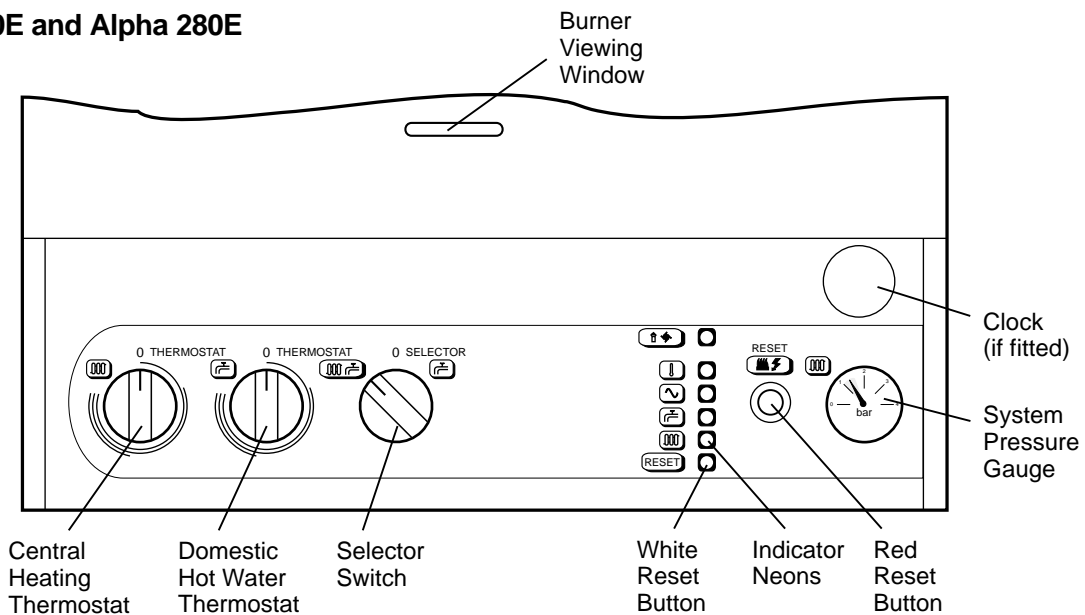

Fig. 1
-  Overheat thermostat has operated - press **white** reset button (see Fig. 1) to reset (not applicable to Alpha 240P and 280P).
When the red reset button (  ) is illuminated on the Alpha 240E and 280E it indicates that the burner has failed to light - Press the **red** reset button (see Fig. 1) and the ignition sequence will restart (not applicable to Alpha 240P and 280P).
This thermostat automatically switches the boiler off in the unlikely event of the boiler overheating. When the thermostat operates on the Alpha 240P/ 280P it turns the pilot off, when it operates on the 240E/280E the  neon is illuminated. Press the white reset button (see Fig. 1) and the ignition sequence will restart automatically on the 240E/280E, for the 240P/280P the pilot will have to be relit. Refer to the lighting instruction in section 4.
Refer to Fig. 1 for boiler controls.